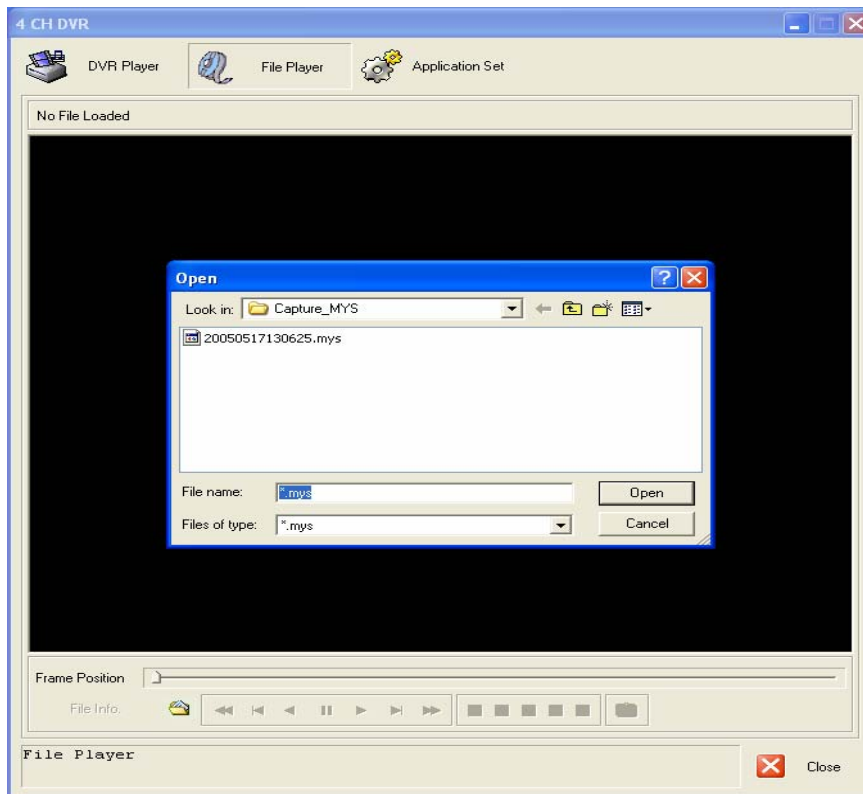

Figure 5
-  : Click this button to playback recorded materials (stored on PC), graphic show by “Figure 5” will be displayed. Please select the file to playback, press “open” to playback. This button function is similar to “File Player” function.